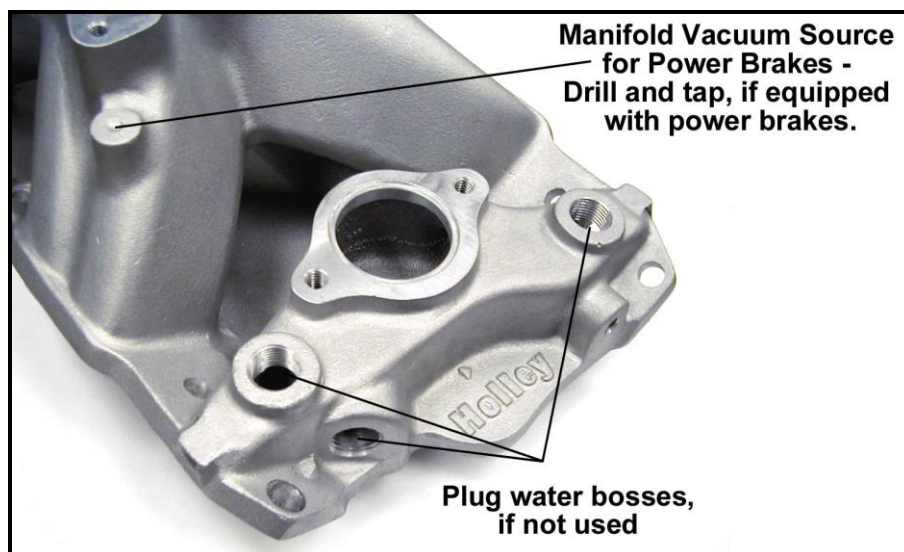

Figure 1
NOTE: If the vehicle is equipped with power brakes, the power brake boss on runner #2 must be drilled and tapped (Figure 1). The tap size is 1/4-18 dryseal.
19. Ensure that all unused water fittings and vacuum ports are properly plugged. See Figure 1.